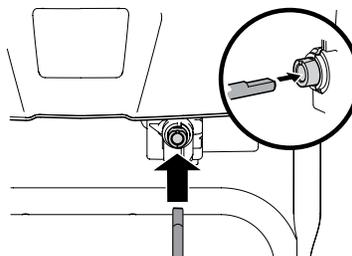

Figure 2-31
- Units with Electric Chute Control - Insert other end of flex shaft into chute control rod coupling under dash panel. Make sure to line up flat end of rod and flat end of coupler. You may need to rotate rod around until these two surfaces line up. See Figure 2-31 inset.